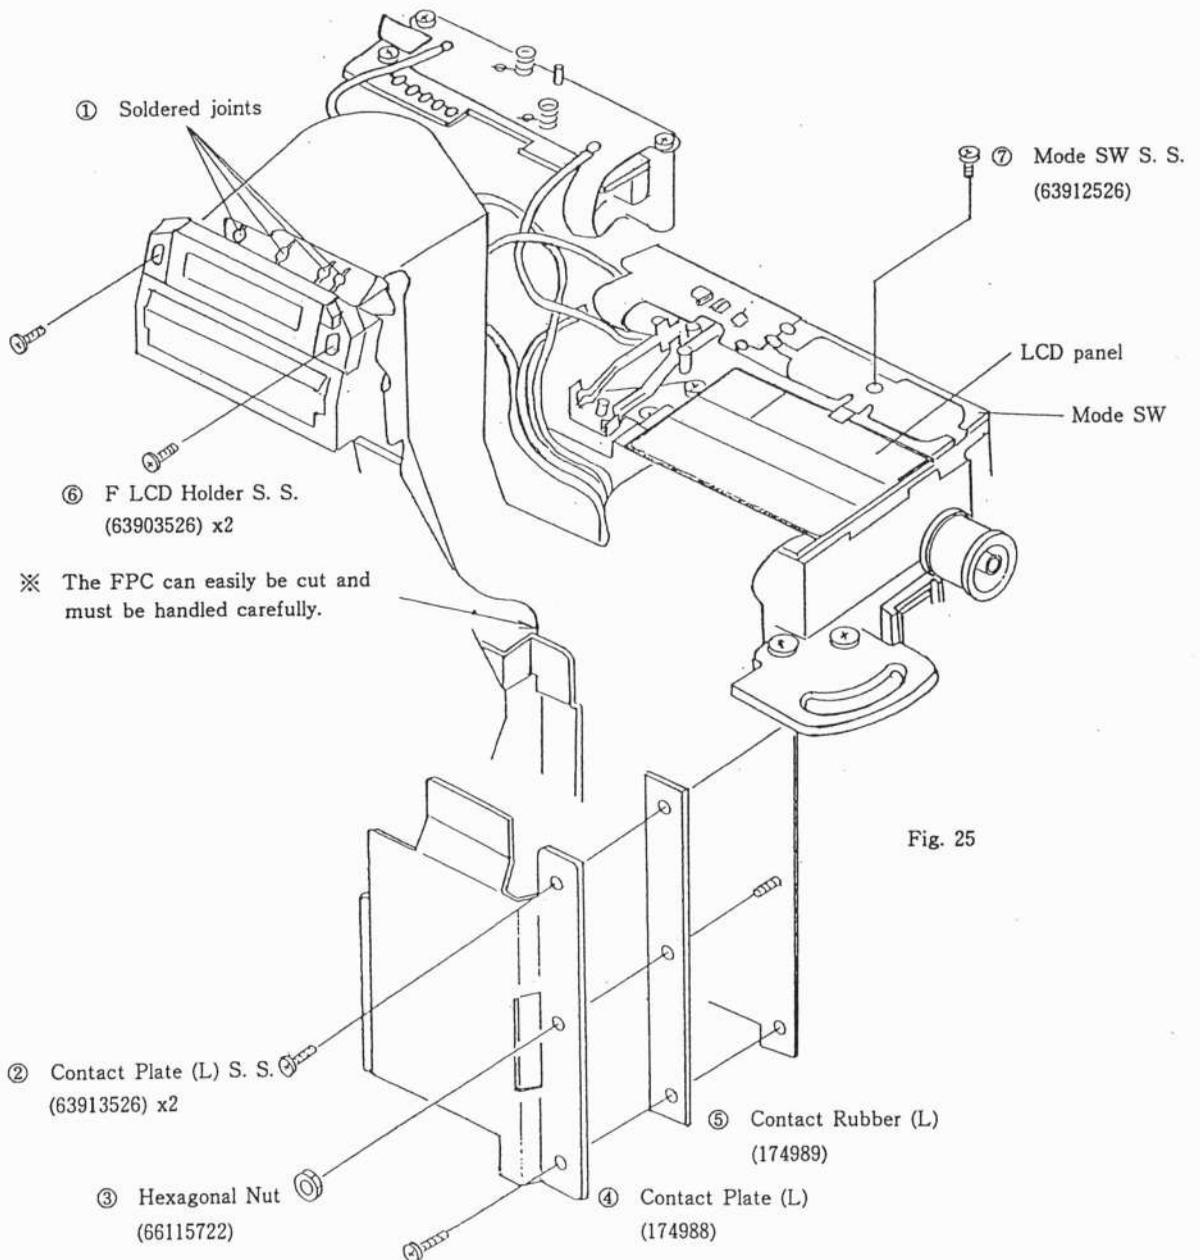

Fig. 25
- 1) Unsolder 4 solder joints in ①.
- 2) Remove the respective parts ①~⑦ shown in (Fig 25) in numerical order.